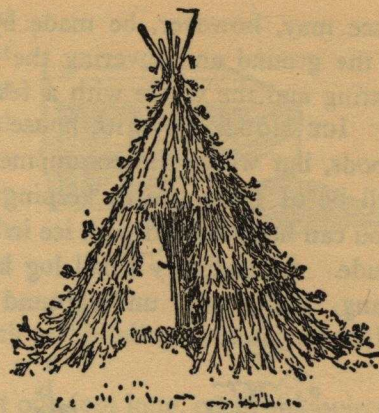

FIG. 53.
*The Wigwam.*—This shelter (Fig. 53), quickly and easily as it may be made, is one of the best. Its steep sides will stand a heavy rain without wetting through, and if well made the camp will be